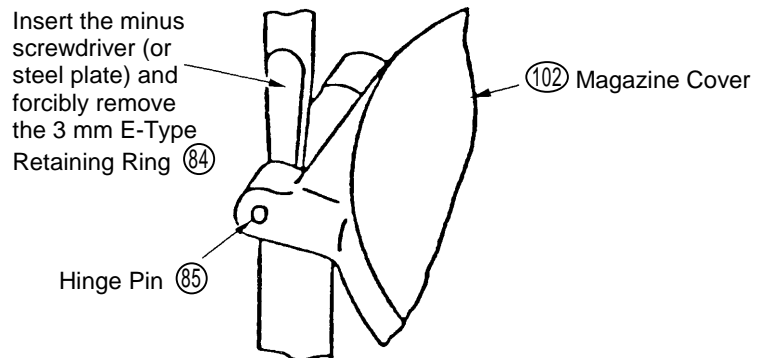

Fig. 20
- Insert the minus screwdriver (or steel plate) into the gap between the Magazine Cover (102) and the Magazine (96), and push down forcibly to remove the 3 mm E-Type Retaining Ring (84). (See Fig. 20). At this time, be very careful not to lose the 3 mm E-Type Retaining Ring (84).
- After extracting the Hinge Pin (85), the Magazine Cover (102) can be taken off.